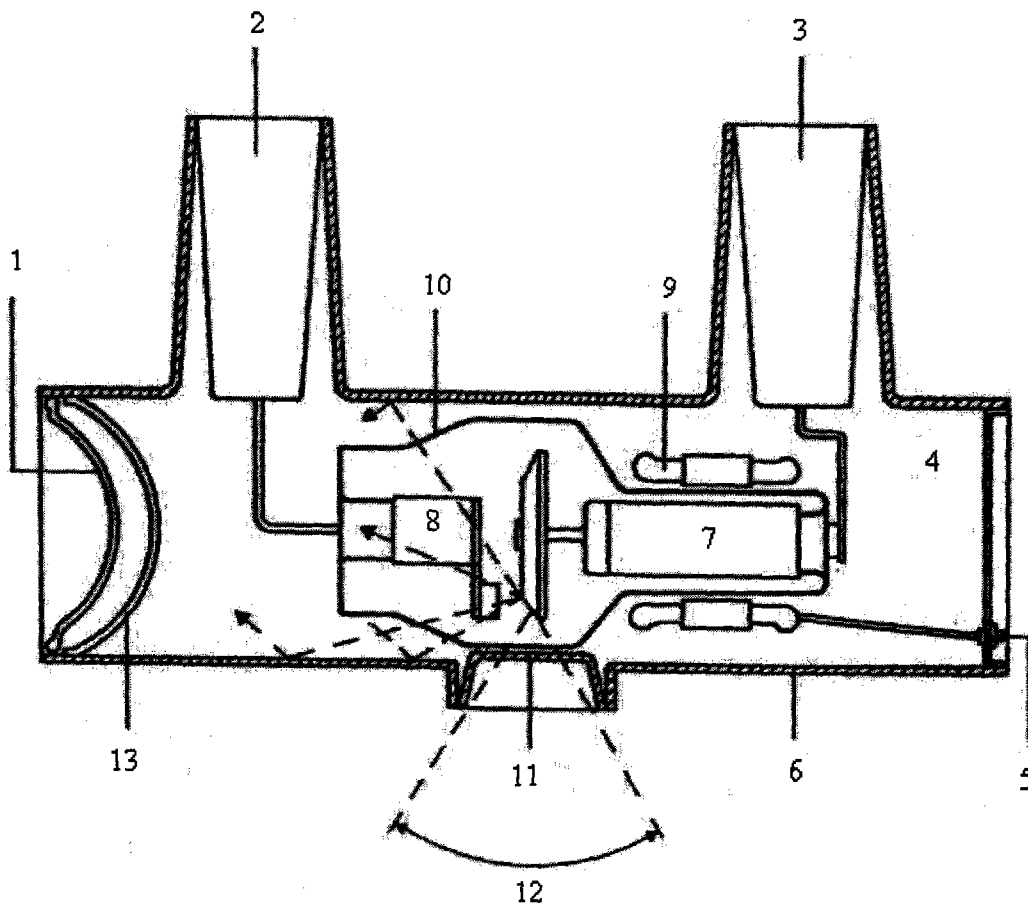

Figure 1 [Rajah 1]
5. Study the following Figure 1 and answer the questions below: